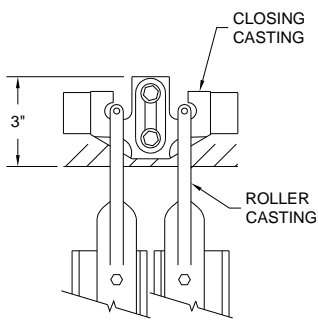

Fig. 3-1
1. Mount the closing casting under the lintel. If the gate is to be face mounted place the closing casting 3" above the lintel. (Fig. 3-1)
2. Mount the roller casting to the closing channel. Position the roller casting on the closing casting. (Fig. 3-1)